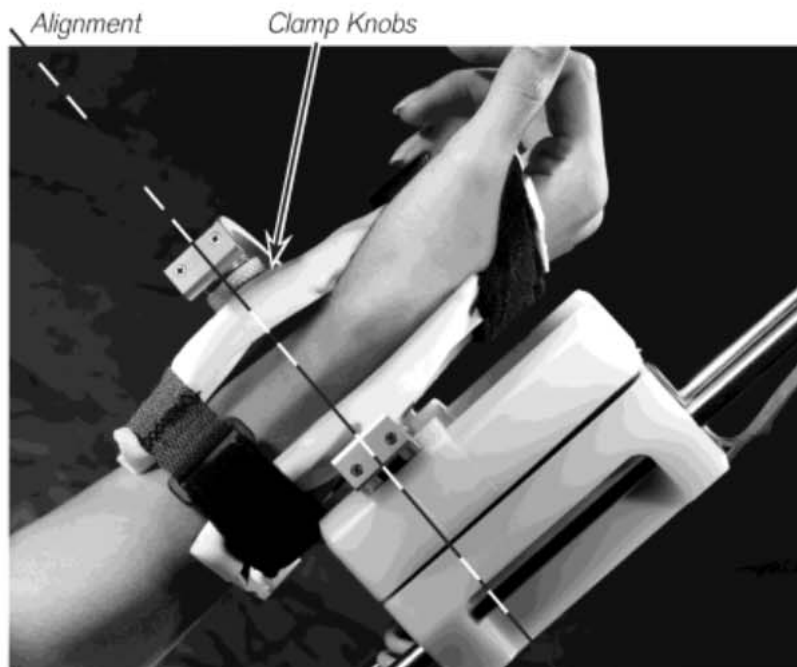

Fig. 4.2
- Align the center of the wrist clamp approximately 1" (25 mm) proximal to the wrist crease and tighten the clamp knobs. (See Fig. 4.2)